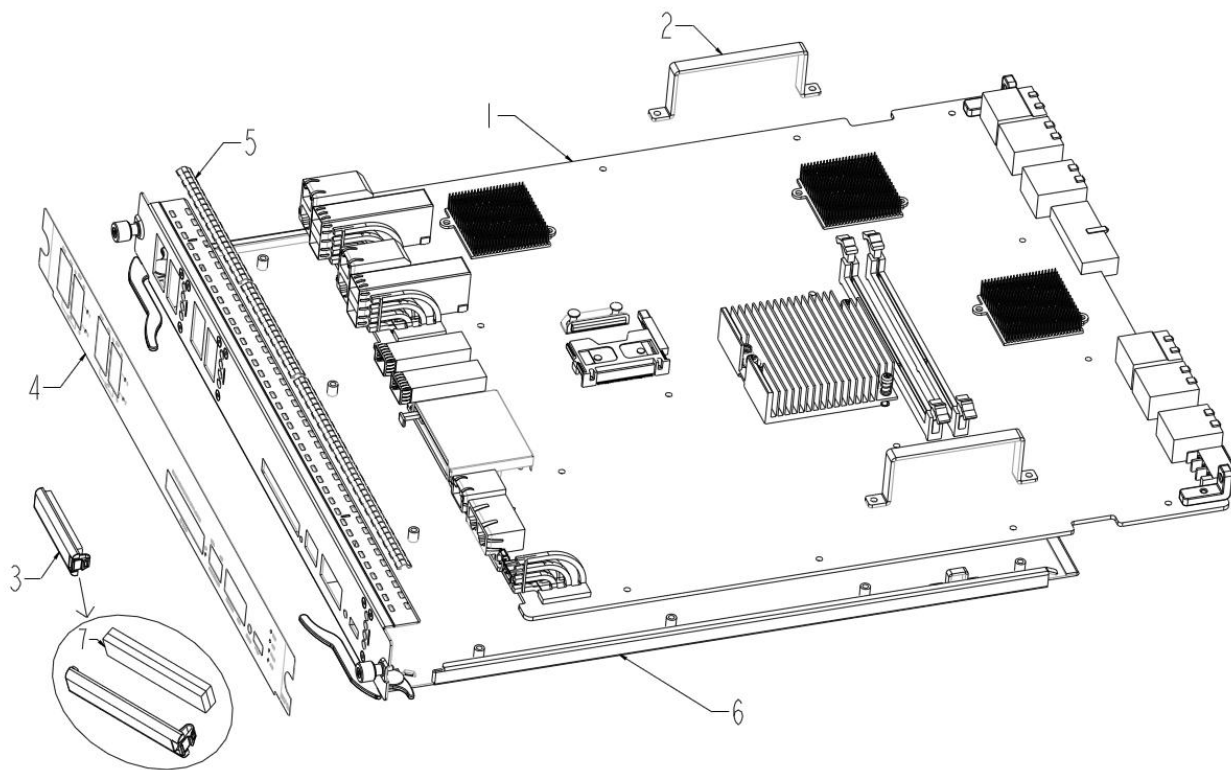

Figure 1 Explode View of the Front Panel
5. All the steps above see Figure 1. Remove the battery from pcb 1, and the detail steps as below: